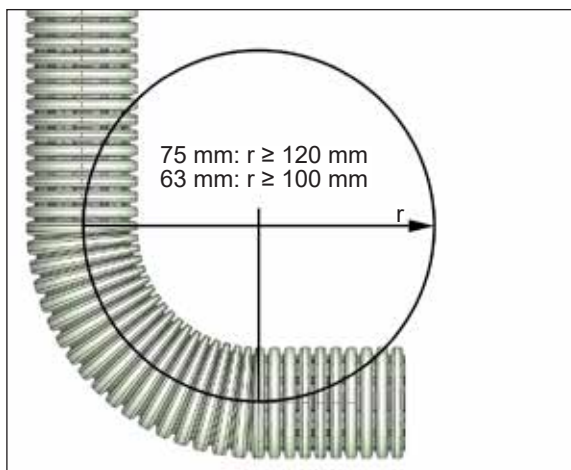

Fig. 8: Minimum bending radius of flexible pipes
- ▶ Observe the following minimum bending radii when running flexible pipes (see Fig. 8):